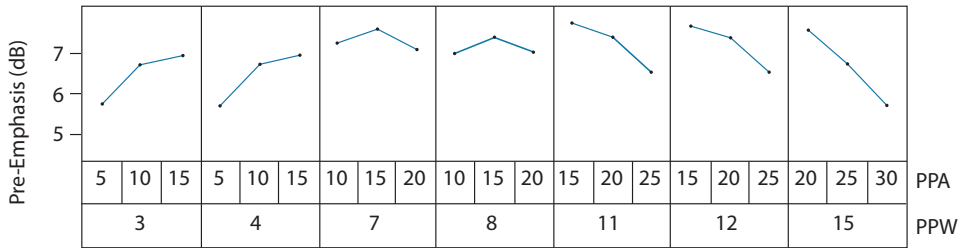
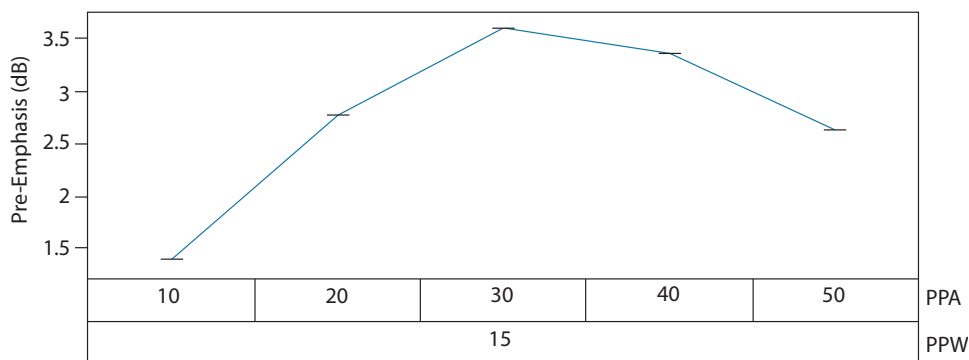

Figure 4-12: Pre-emphasis settings for VCCO_{<n>} = 1.2V and DS = 7 (swing = 200mV_{pp})
Figure 4-19: Pre-emphasis settings for VCCO_<n> = 2.5V and DS = 35 (swing = 800mV_{pp})
The only requirement of the trace driver pre-emphasis settings is to minimize ISI introduced by a lossy link and maximize the eye opening at the receiver. The Pre-emphasis compensation of the GS12142 output channel is a two-step process. The first step is to use the settings from Figure 4-12 to Figure 4-19 that best match the insertion loss of the link in the application, while the second step is a fine optimization procedure.
1. Pre-emphasis Amplitude (PPA) Optimization: Set the PPA and PPW to the values obtained from the graph selected out of Figure 4-12 to Figure 4-19, and then measure the downstream jitter. While keeping PPW constant, increment the PPA by 'a'. If the jitter is lower after the first increment, continue to increment by 'a' until the jitter begins increasing or a setting of 50 is reached. If there was a setting which resulted in a lower jitter measurement than the initial setting, that is the Optimized Pre-emphasis Amplitude setting: PPA_{Optimal}, and the PPA optimization procedure is complete.
If incrementing the PPA or decrementing the PPA did not result in a setting with lower jitter, then the initial setting obtained from the graph selected out of Figure 4-12 to Figure 4-19 is the PPA optimized Pre-emphasis Amplitude setting: PPA_{Optimal}.
2. The second step is to set the PPA to the optimized setting PPA_{Optimal} determined in step 1 and PPW to the values obtained from the graph selected out of Figure 4-12 to Figure 4-19, then measure the downstream jitter. While keeping PPA constant, increment the PPW by 'w'. If the jitter is lower after the first increment, continue to increment by 'w' until the jitter begins increasing or a setting of 15 is reached. If there was a setting which resulted in a lower jitter measurement than the initial setting, that is the Optimized Pre-emphasis Width setting: PPW_{Optimal}, and the optimization procedure is complete.
If incrementing the PPW or decrementing the PPW did not result in a setting with lower jitter, then the initial setting value obtained from the graph selected out of Figure 4-12 to Figure 4-19 is the optimized Pre-emphasis Width setting: $PPW_{Optimal}$.